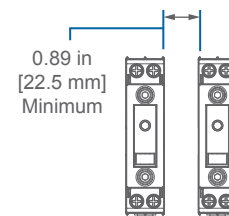

fig.2 Multiple units mounting for maximum ratings
- To achieve maximum ratings, there must be a minimum spacing of 0.89 in (22.5 mm) between the devices in free air (as shown in **fig.2**).